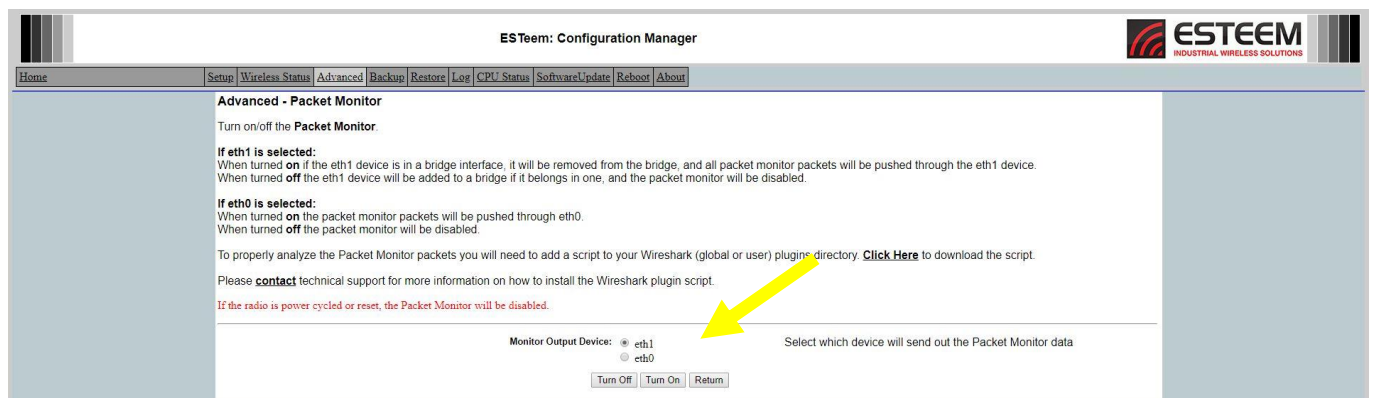

Figure 13 : Monitor Output Device
4. Select the **Monitor Output Device** (Figure 13). Typically, eth1 is used allowing the ESTeem Horizon to remain connected to an active device